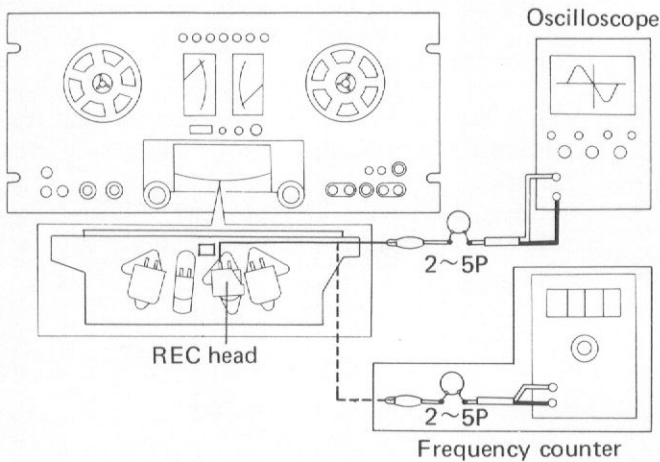

Fig. 34
1. Connect an oscilloscope or frequency counter to the L (R) channel side of the record head through a 2 ~ 5pF capacitor (Fig. 34).
3. Push the L (R) side MODE switch. Adjust the dummy coil L_{305} (L_{306}) for the same waveform as stereo recording when an oscilloscope is used. (Adjust to the same frequency when a frequency counter is used.)